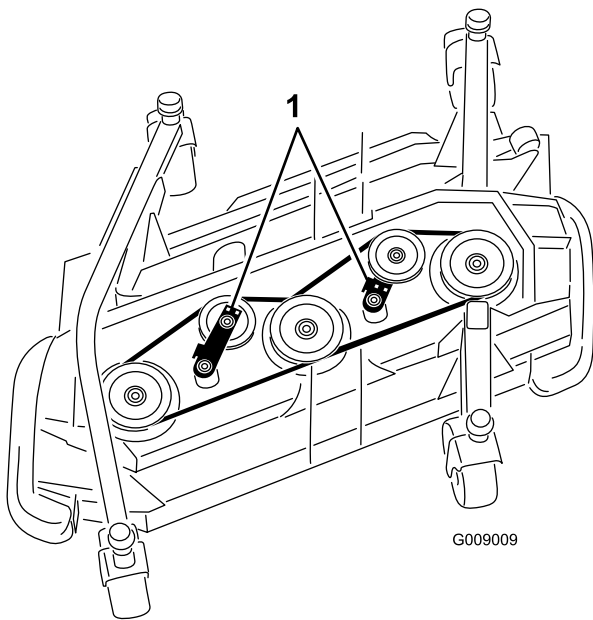

Figure 79
3. Using a ratchet wrench or similar tool, move the idler pulleys (Figure 79) away from the drive belt to release the belt tension and allow the belt to be slipped off the pulleys.